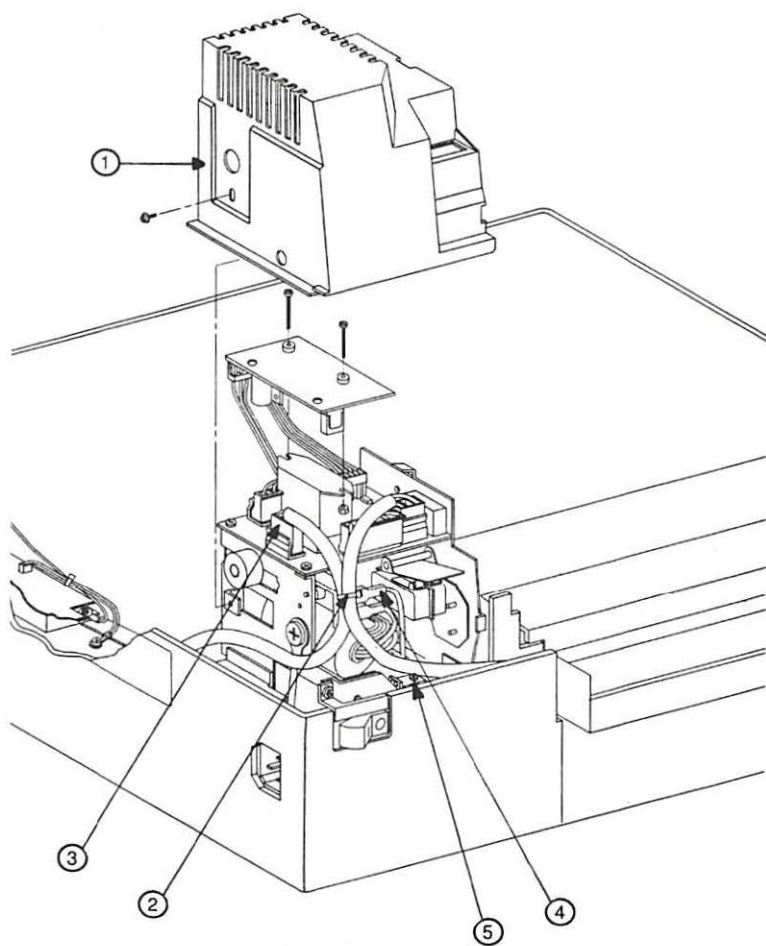

FIGURE 2-53
6. Replace the wedge at the base of the Power Interlock Assembly and install its long black screw (Figure 2-53, #5).
7. Connect the two black wires with spade connectors to their terminals on the Power Interlock Assembly (Figure 2-53, #4). **CAUTION:** There are two double-pronged connectors for these wires. Attach one wire to each connector -- not both wires to the two prongs of a single connector. Make sure you are using the upper connectors.
9. Using a cable tie, tie together the three cables to the Power Interlock Assembly, as they were before (see Figure 2-53, #2).